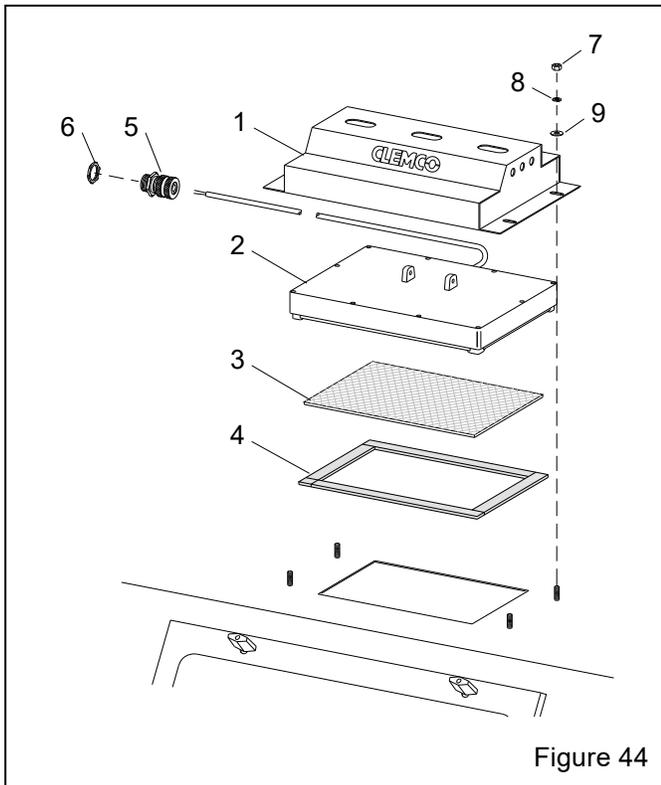

Figure 44
**9.4 LED Light Assembly – Figure 44**